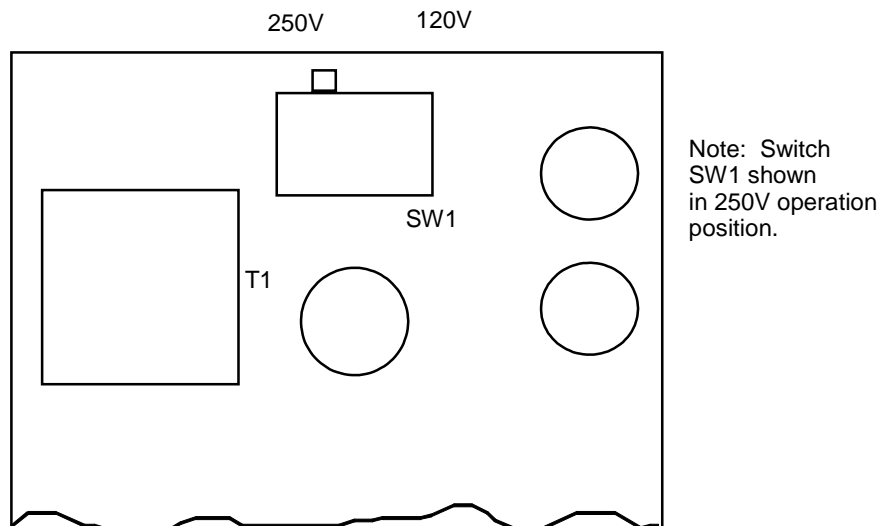

Fig. 2.2 - Voltage Selection Switch
- 2.5.7 Locate voltage selection switch SW1 (ref. fig. 2.2).
- 2.5.8 Move the switch to the required voltage setting (ref. fig. 2.2).